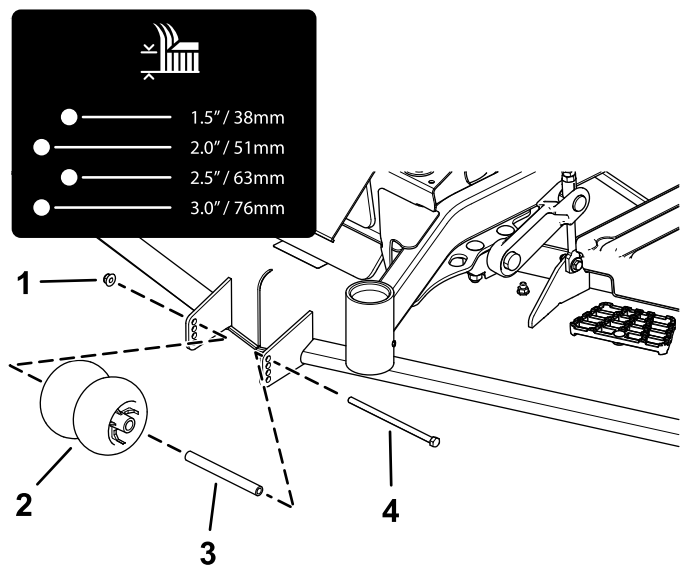
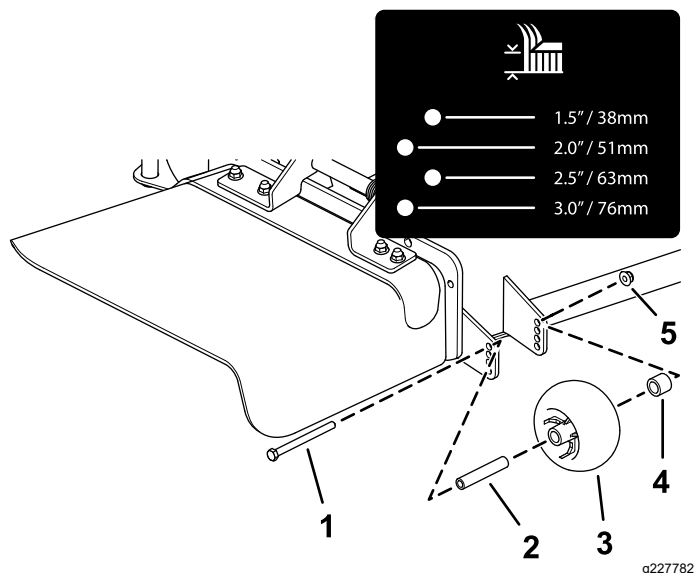
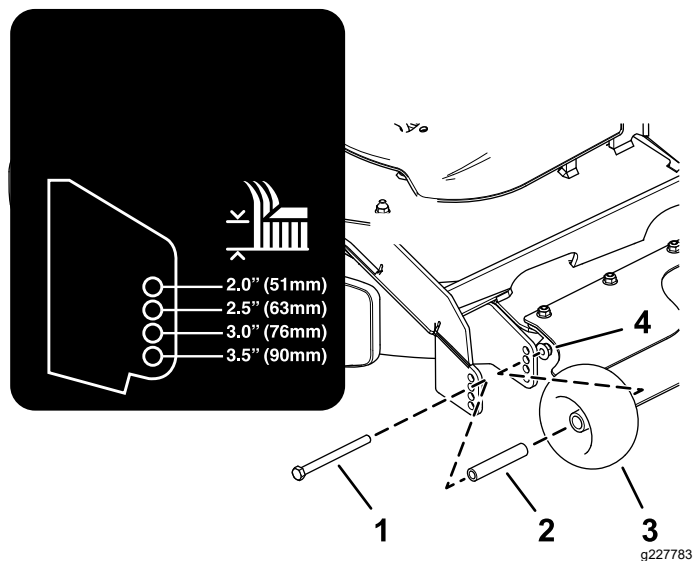
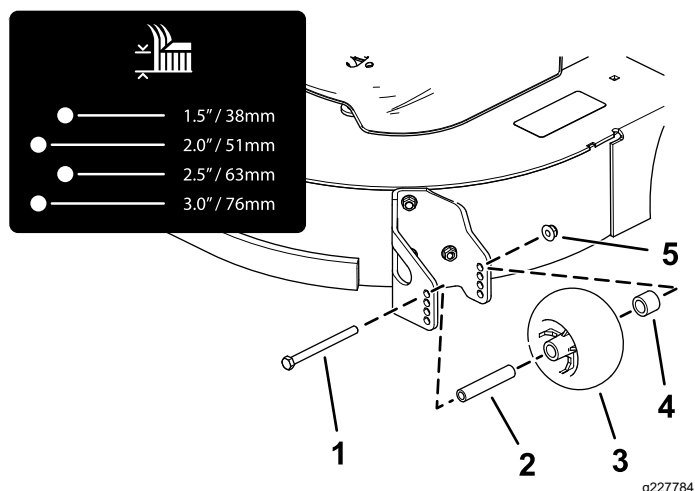

Figure 26
Figure 27
Figure 29
Figure 28
4. Adjust the anti-scalp rollers as shown in Figure 26, Figure 27, Figure 28, and Figure 29.